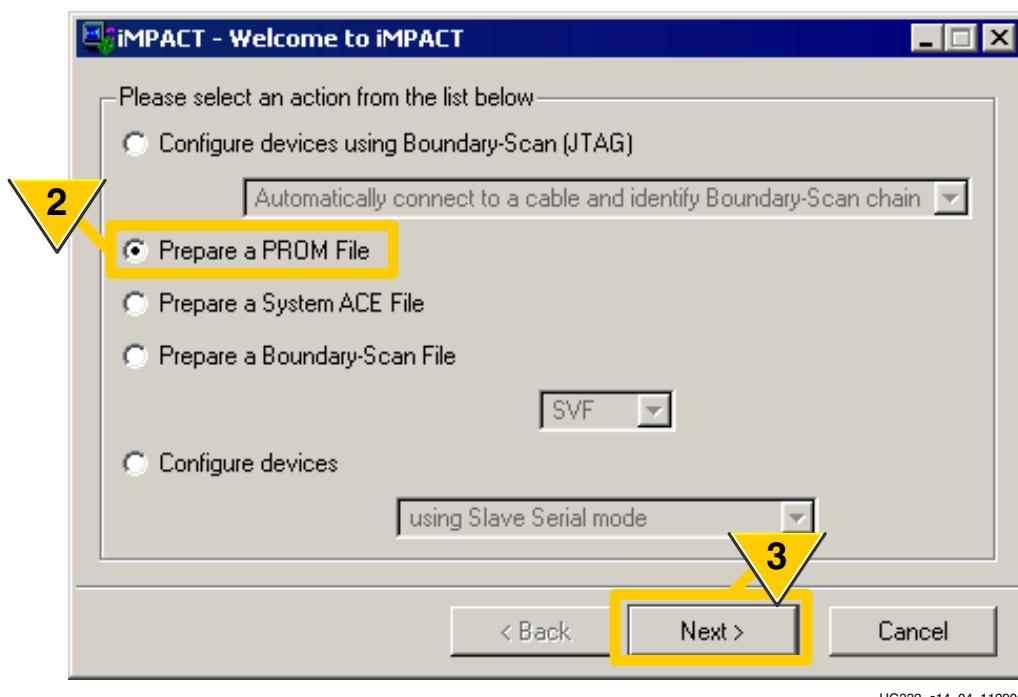

Figure 14-2: Prepare a MultiBoot PROM Image
2. As shown in Figure 14-2, choose Prepare a PROM File.